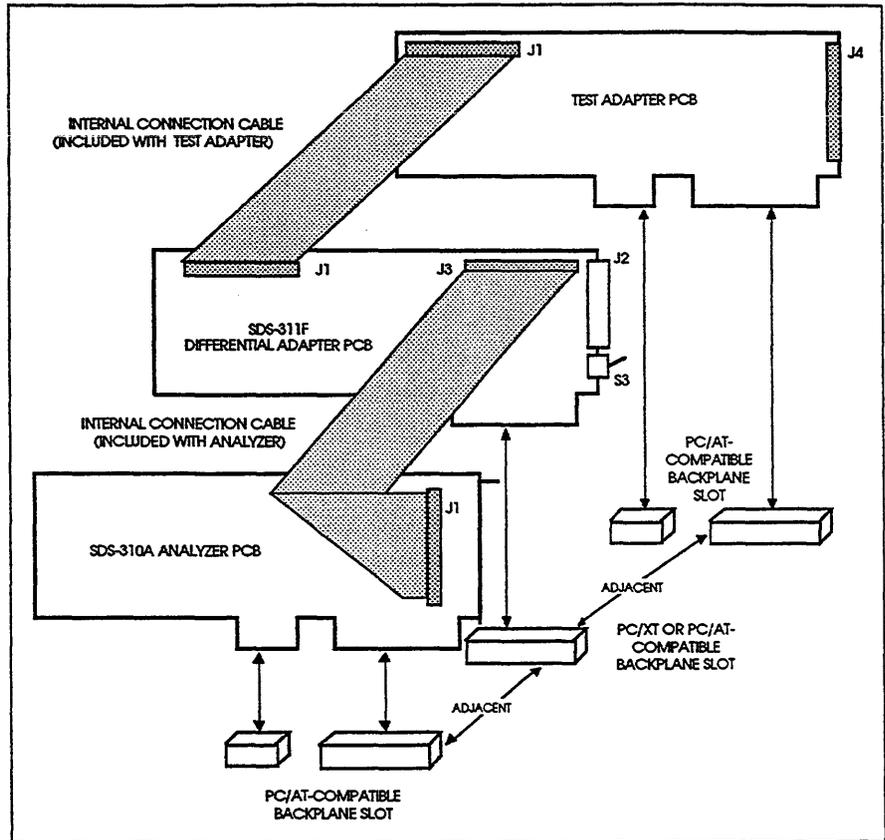

Figure 1-5.
7. If you have a SDS-310A, connect the short 50-pin cable between connector J3 on the differential adapter and connector J1 on the bus analyzer. Make sure Pin 1 is located correctly on both ends of this cable. See Figure 1-5.